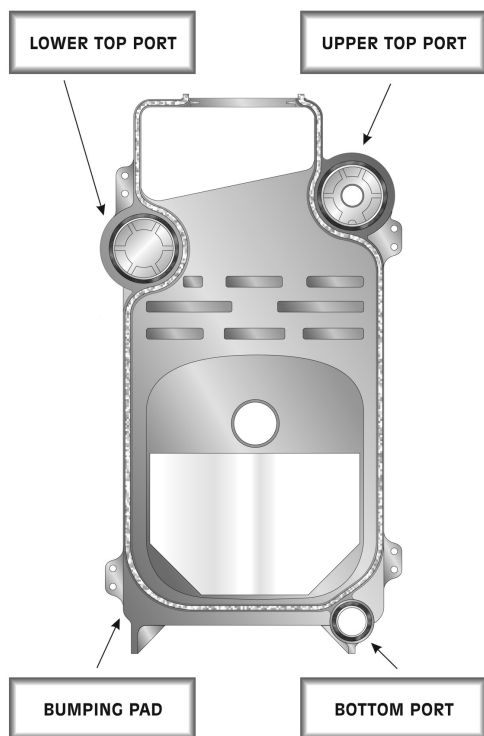

Figure 2.7: Torque Specification/Procedure
- Draw the sections together evenly, in three rotations. Torque each port to 20 ft-lbs for the first rotation, then to 40 ft-lbs for the second rotation, then to 60 ft-lbs for the third rotation. Use the following sequence until all three ports touch metal-to-metal at 60 ft-lbs. See Figure 2.7 for port reference.
- Tighten these (3) three locations only to a torque value of 60 ft-lbs. **DO NOT EXCEED.**